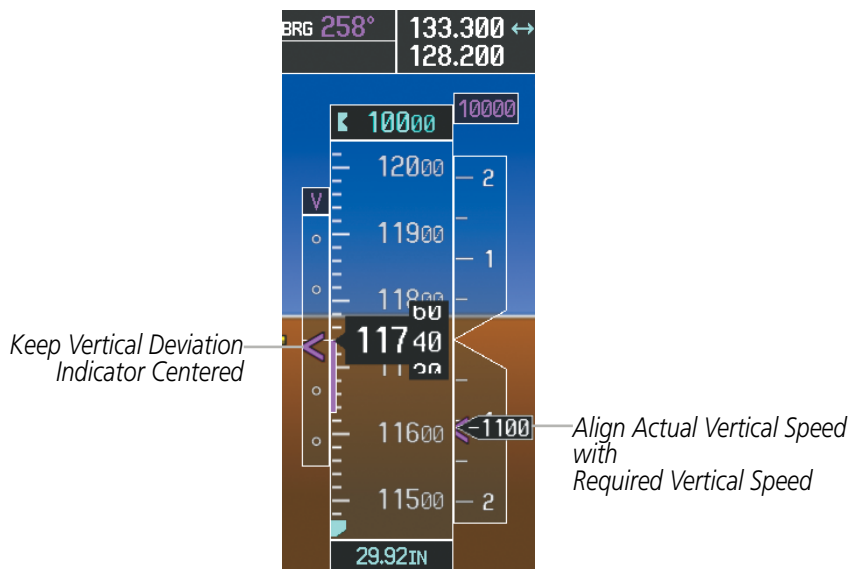

Figure 5-140 VDI & RVSI Showing Correctly Established Descent
- 16) Upon reaching TOD, a descent vertical speed is established which places the VSI pointer in line with the RVSI as shown in Figure 5-140.